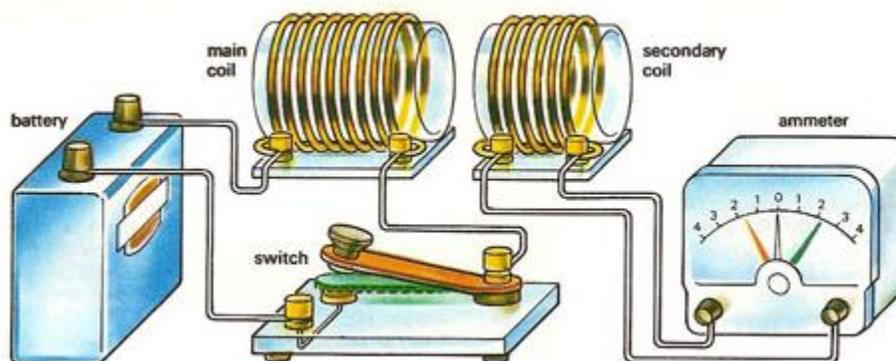

Figure 6.13: Mutual Induction
- 6-78 Figure 6.13 shows a simple example of mutual induction. A loop of wire is connected to battery through a switch. While the switch is open, no current flows in the loop, and there is no magnetic field. When the switch closes, the loop begins to carry a current, and this current creates a magnetic field.
- 6-80 When the switch in the circuit of Figure 6.13 is opened, current stops flowing in the upper loop. The magnetic field then changes in strength from its maximum value to zero. This change produces the reverse effects in the lower loop.